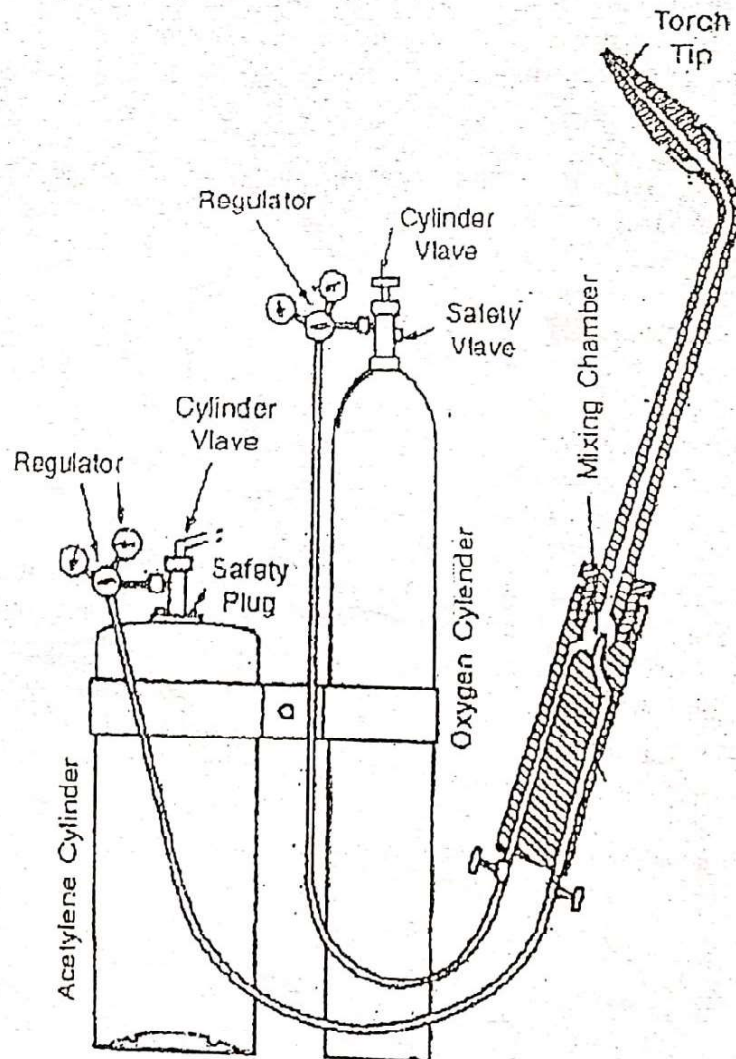

Fig:2 Equipments of Gas welding
- **Gas welding equipments:** The most common equipments used for gas welding are shown in fig:2 and explained as follows: